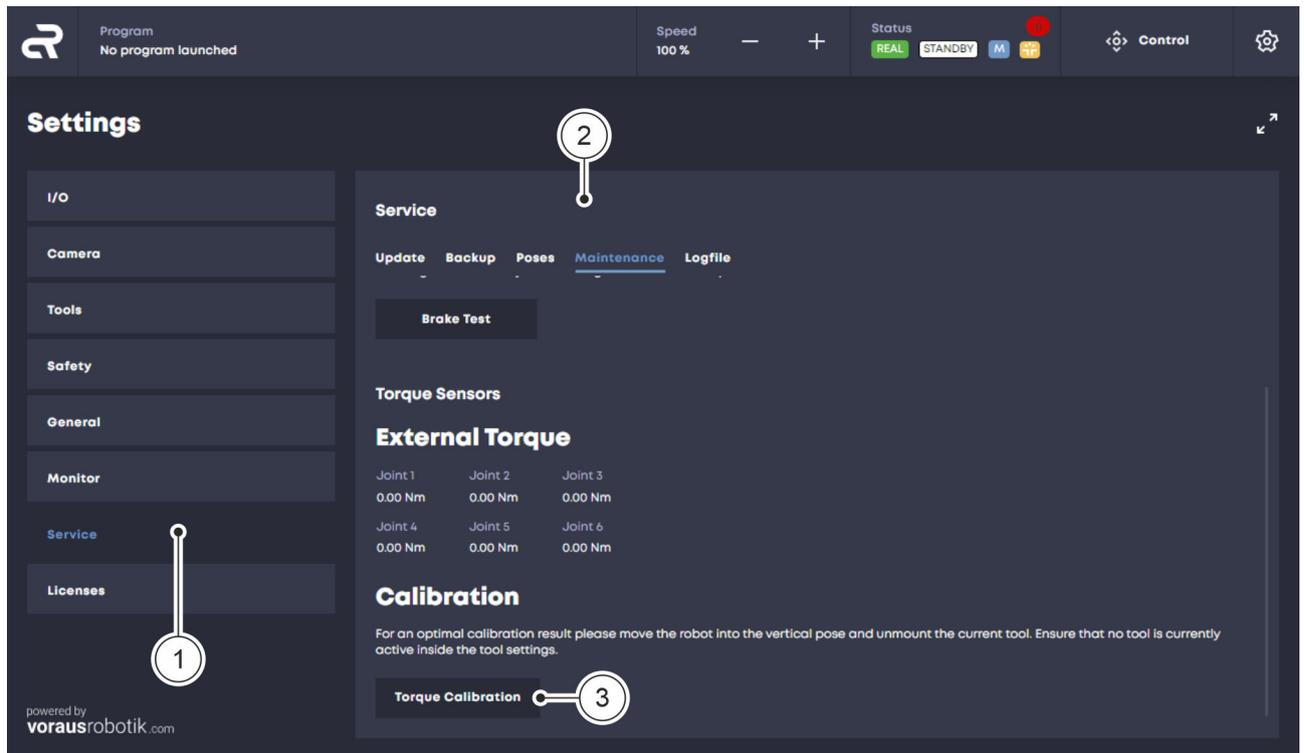

Fig. 54 Calibrating the torque sensors
02. In the 'Settings' menu, click the 'Service' button on the left-hand tab to open the service settings window Fig. 54/①.
03. In the 'Service' menu, click on the 'Maintenance' tab Fig. 54/②.
04. Scroll down until the torque sensor calibration window appears Fig. 54.
05. Click the 'Torque Calibration' button Fig. 54/③.